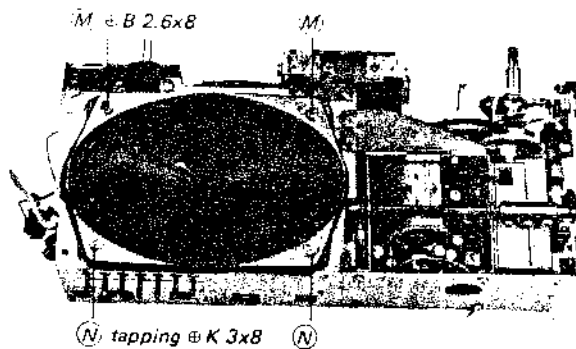

Fig. 2-9
11. Remove the two screws (#B 2.6x8) marked (M) and the two tapping screws (#K 3x8) marked (N) in Fig. 2-9.